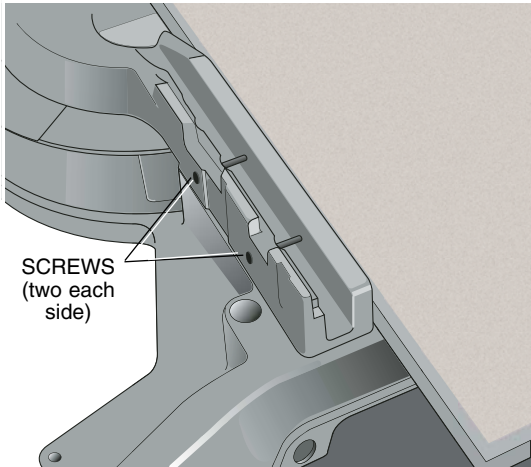

FIG. 10
The miter lock/adjustment lever and trigger allows you to miter your saw 50° left and right. To miter the saw, unlock miter lock lever (J) by pulling upward, squeeze the detent trigger (K) and set the miter angle desired on the miter scale. Lock miter lock handle by pressing downward. Override the detent trigger by rotating knob (Fig. 10, V).